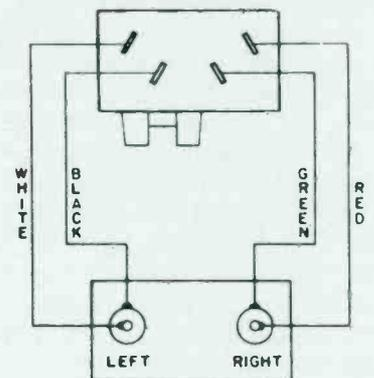

Fig. 2—Stereo cartridge diagram.
A cartridge wiring diagram is shown in Fig. 2. Before replacing the cartridge, write down the sequence in which the colored wires are connected to the cartridge terminals.
2. Remove the push-on connectors from the cartridge terminals, and connect them to the terminals of the new cartridge as shown in Fig. 2.